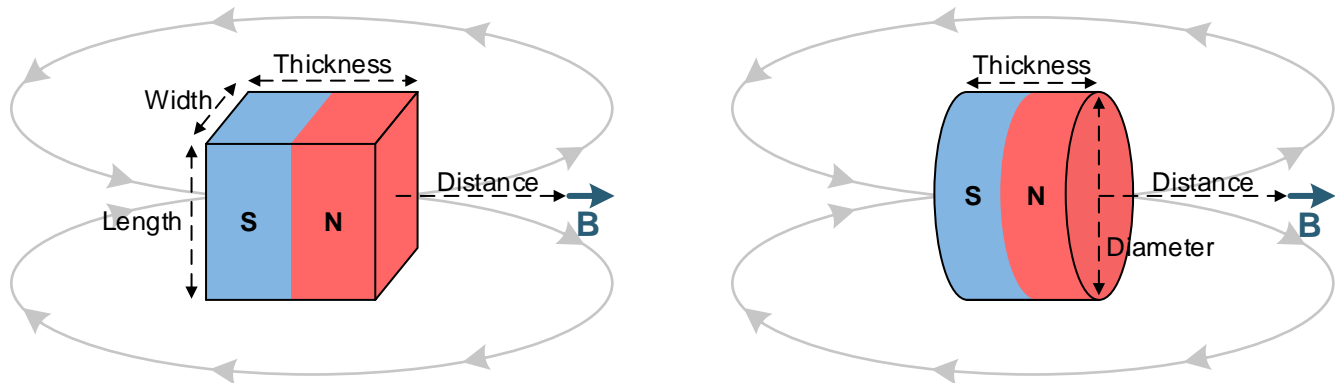

Figure 21. Rectangular Block and Cylinder Magnets
Magnets are made from various ferromagnetic materials that have tradeoffs in cost, drift with temperature, absolute maximum temperature ratings, remanence or residual induction (B_r), and coercivity (H_c). The B_r and the dimensions of a magnet determine the magnetic flux density (B) produced in 3-dimensional space. For simple magnet shapes, such as rectangular blocks and cylinders, there are simple equations that solve B at a given distance centered with the magnet. Figure 21 shows diagrams for Equation 4 and Equation 5.
Use Equation 4 for the rectangular block shown in Figure 21:
Use Equation 5 for the cylinder shown in Figure 21: